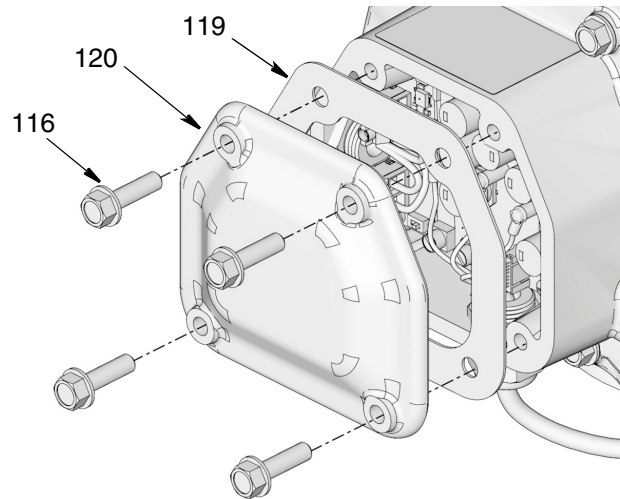

FIG. 53
5. Remove screws (116) from control box cover (120) and remove cover and gasket (119) (FIG. 53).